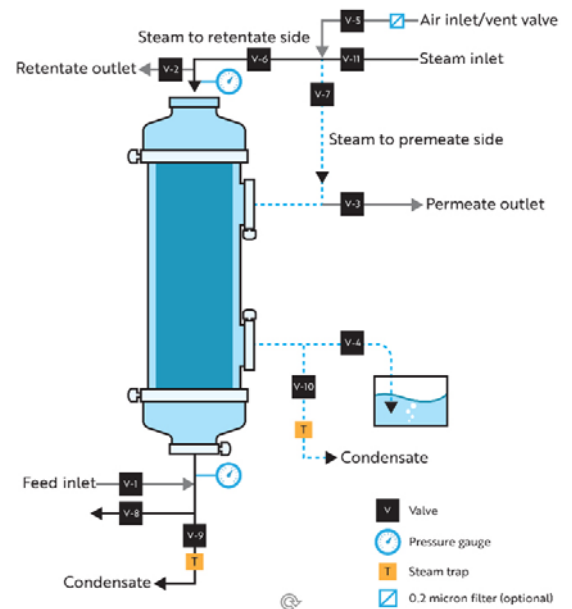

Figure 8: Typical configuration for integrity testing SepraPor® post-SIP.
16. Integrity-testing the filter post-sterilization is optional but recommended, and sometimes required in critical applications. If performing an integrity test, close all valves except the air inlet/vent valve (V5), retentate steam inlet valve (V6), and permeate steam trap bypass valve (V4). See Figure 8.